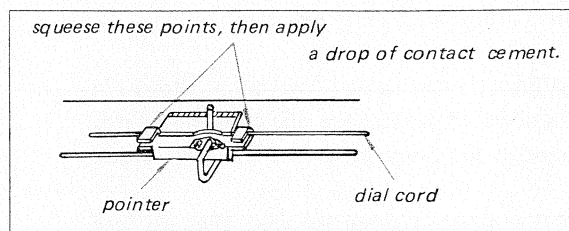

Fig. 2-18 Pointer installation
5. Put the dial pointer on the cord as shown in Fig. 2-18.
1. Put the dial pointer on the cord as shown in Fig. 2-18 and move it to a position indicating "0" reading on the dial scale when the tuning capacitor is set to maximum capacitance.